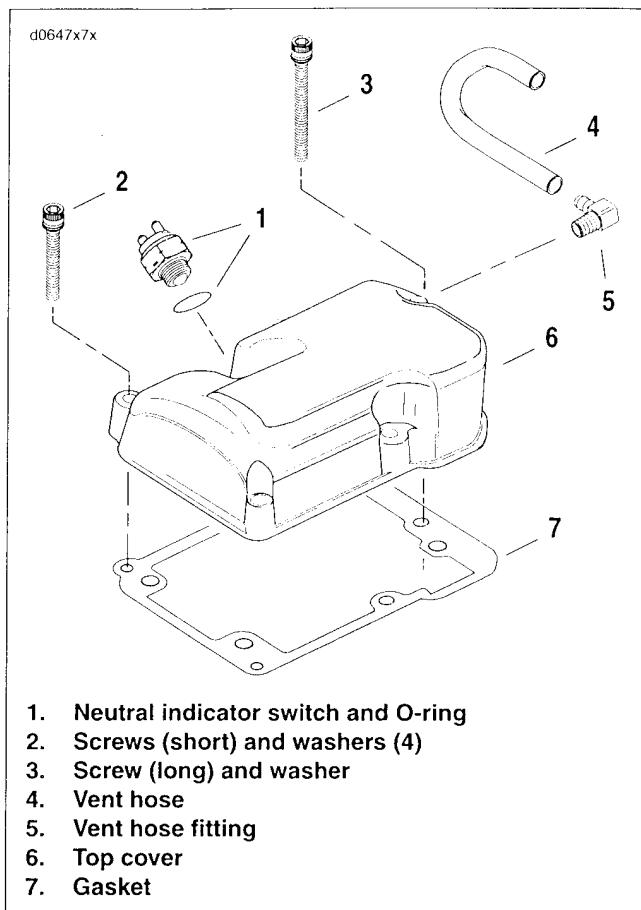
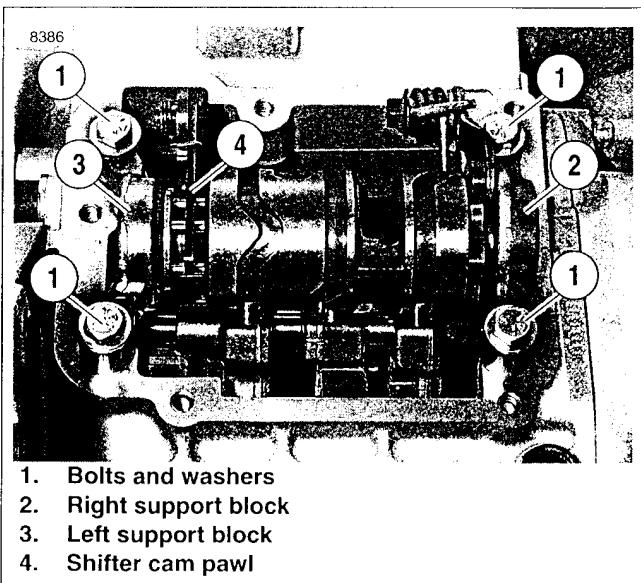

Figure 7-3. Cover Assembly
Figure 7-4. Support Block Fasteners
4. See Figure 7-3. Disconnect neutral indicator switch (1). See 8.29 NEUTRAL SWITCH.
5. Remove vent hose (4) from fitting (5) on cover to provide additional clearance for removal if needed.
- b. Remove the top cover (6) and cover gasket (7).
7. See Figure 7-4. Remove four bolts and washers (1) to free the right (2) and left (3) support blocks.
8. Lift shifter cam pawl (4) over cam pins to free assembly.
4. See Figure 7-3. Install the top cover (6) with a new gasket (7) placing long screw (3) next to vent hose fitting (5). Tighten screws (2, 3) to 84-108 in-lbs (9.5-12.2 Nm).